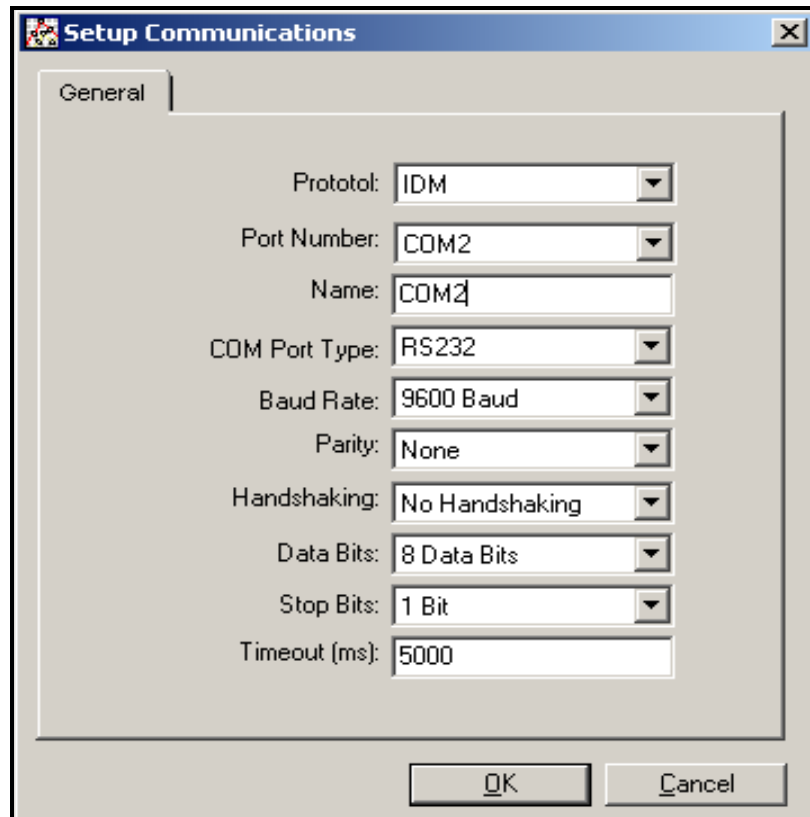

Figure 16: Setup Communications Screen
4. Click on the "Communications Port" option to select it. The *Setup Communications* screen appears similar to Figure 16.